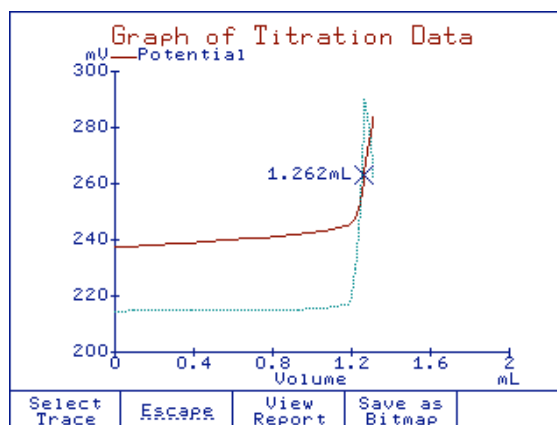

Figure 2. Equivalence endpoint (mV)
- » **Figure 2** displays the the mV readings and the selected derivative vs. volume of titrant.